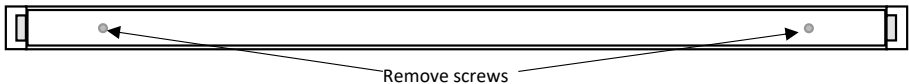

Fig 1 (single fitting shown)
- Remove the two screws on top of the fitting (see Fig 1)